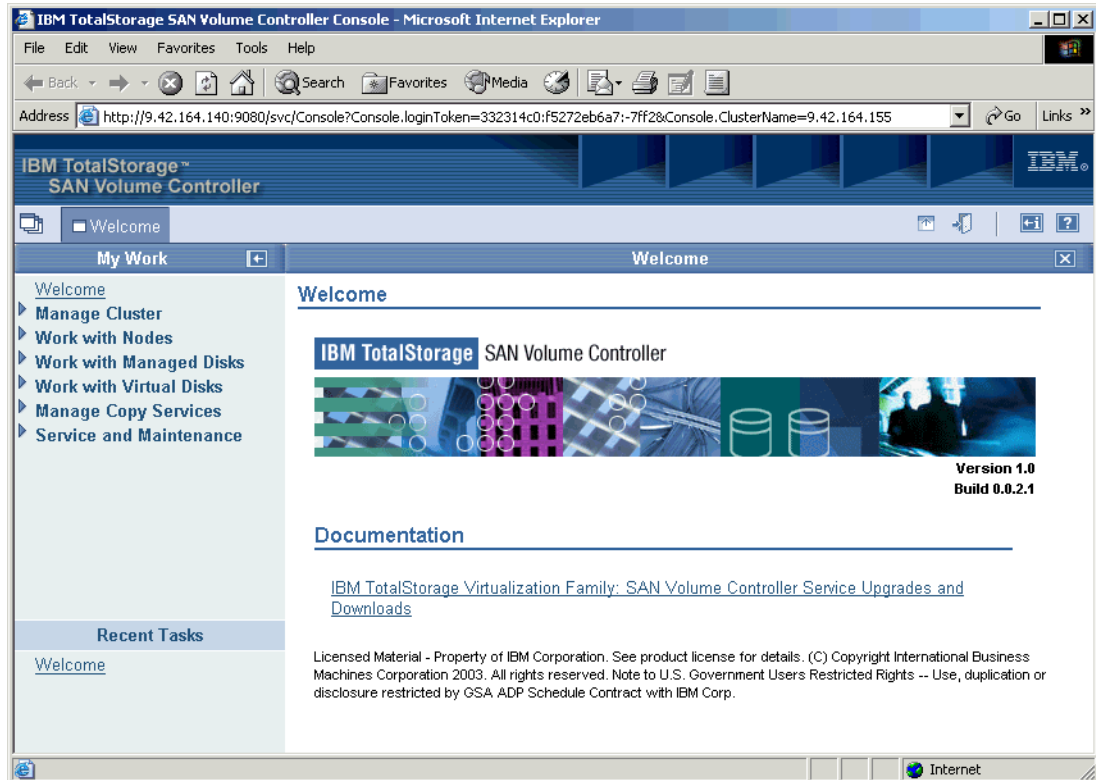

Figure 6-10 SVC Console Welcome page
- The SAN Volume Controller Console Application launches in a separate browser window (Figure 6-10). On this page, as with the Welcome page, you can see several links under My Work (top left), a Recent Tasks list (bottom left), the SVC Console version and build level information (right, under graphic), and a hypertext link to the SVC download page:
1. From the SVC Welcome page (Figure 6-10 on page 109), select the **Manage Cluster** option and the **Set Cluster Time** link.
1. From the SVC Welcome page (Figure 6-10 on page 109), select the **Working with Virtual Disks** option and then the **Hosts** link.
1. From the SVC Welcome page (Figure 6-10 on page 109), select the **Work with Managed Disks** option and then the **Managed Disks** link.
1. From the SVC Welcome page (Figure 6-10 on page 109), select the **Work with Managed Disks** option and then the **Managed Disks Groups** link.